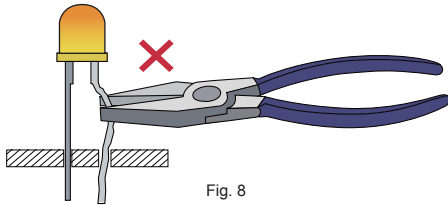

Fig. 8
- During lead forming, use tools or jigs to hold the leads securely so that the bending force will not be transmitted to the LED lens and its internal structures. Do not perform lead forming once the component has been mounted onto the PCB. (Fig.8)